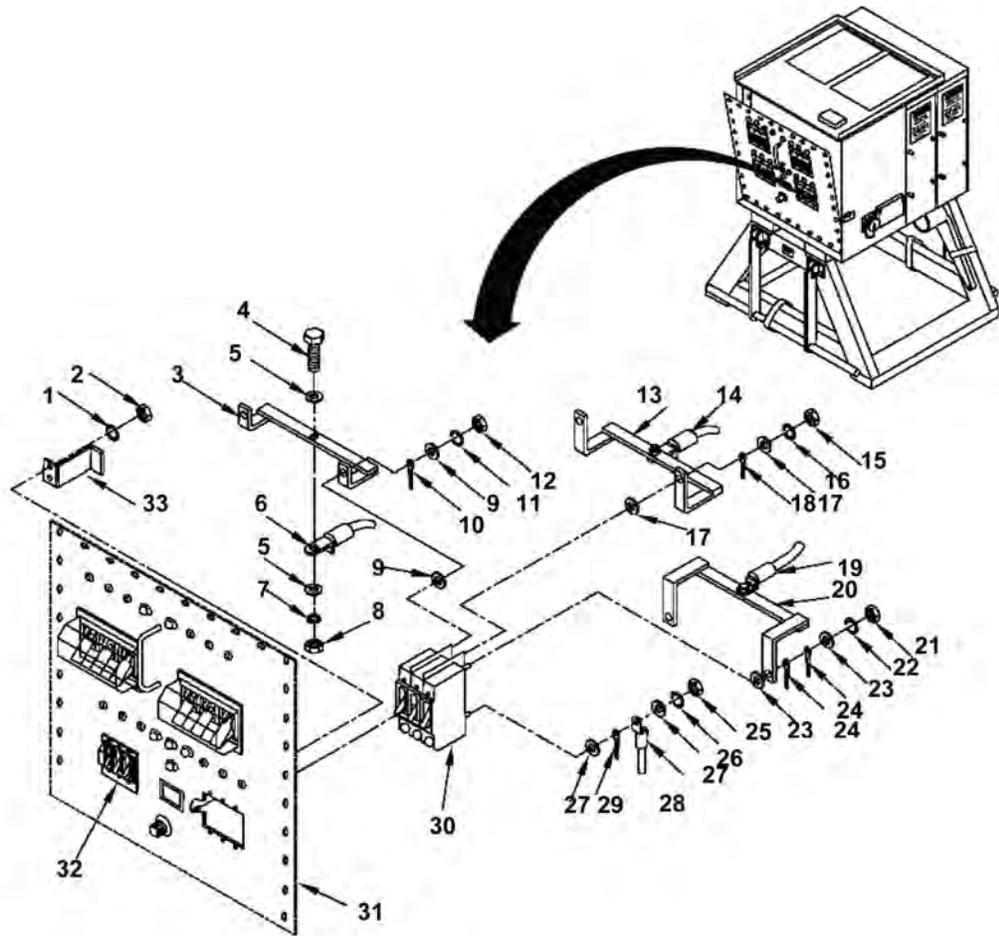

Figure 1. Circuit Breaker CB3 and CB4 (PP-8440A Only).
11. Position two retainer brackets (Figure 1, Item 33) on studs and secure with four flat washers (Figure 1, Item 1) and four self-locking nuts (Figure 1, Item 2).
13. Connect three wires (Figure 1, Item 28) to rear of circuit breaker (Figure 1, Item 30 or 32) by installing six flat washers (Figure 1, Item 27), three locking star washers (Figure 1, Item 26), three indicator wires (Figure 1, Item 29) and three nuts (Figure 1, Item 25). Remove all tags.
14. Position buss bars C2 (Figure 1, Item 20), B2 (Figure 1, Item 13), and A2 (Figure 1, Item 3) on circuit breaker lugs before securing buss bars to circuit breakers.
15. Connect buss bar C2 (Figure 1, Item 20) to circuit breaker/CB4 (Figure 1, Item 30) and circuit breaker/CB3 (Figure 1, Item 32) by installing four flat washers (Figure 1, Item 23), four indicator wires (Figure 1, Item 24), two locking star washers (Figure 1, Item 22) and two nuts (Figure 1, Item 21). Ensure wire (Figure 1, Item 19) on rear of buss bar (Figure 1, Item 20) is securely attached.
16. Connect buss bar B2 (Figure 1, Item 13) to circuit breaker/CB4 (Figure 1, Item 30) and circuit breaker/CB3 (Figure 1, Item 32) by installing four flat washers (Figure 1, Item 17), two indicator wires (Figure 1, Item 18), two locking star washers (Figure 1, Item 16) and two nuts (Figure 1, Item 15). Ensure wire (Figure 1, Item 14) on rear of buss bar (Figure 1, Item 13) is securely attached.
17. Connect buss bar A2 (Figure 1, Item 3) to circuit breaker/CB4 (Figure 1, Item 30) and circuit breaker/CB3 (Figure 1, Item 32) by installing four flat washers (Figure 1, Item 9), two indicator wires (Figure 1, Item 10), two locking star washers (Figure 1, Item 11) and two nuts (Figure 1, Item 12). Ensure wire (Figure 1, Item 6) on rear of buss bar (Figure 1, Item 3) is securely attached. Ensure all connections correspond to correct power phase. Remove all tags.
18. Perform procedures in WP 0027 to secure circuit breaker panel (Figure 1, Item 31).